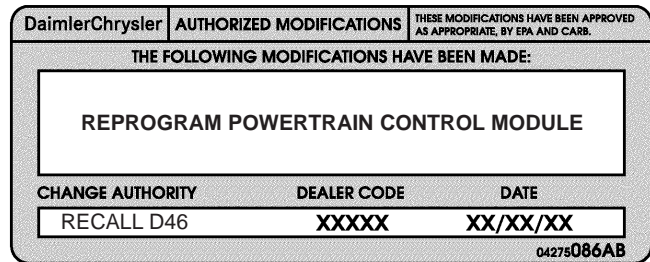

FIGURE 3
1. Type or print (with a ballpoint pen) the recall number, dealer code and date on the Authorized Modifications Label (Figure 3).